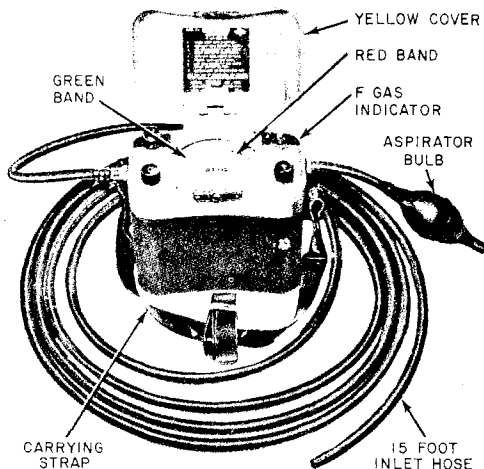

Fig. 1—F Gas Indicator
2.01 The F Gas Indicator, shown in Fig. 1, is a 2-filament, hot-wire gas indicator. It consists of a Wheatstone bridge type detecting element, an indicating meter with a light to facilitate reading at night, and a battery holder housed in a plastic case. An aspirator bulb, a 15-foot length of sampling hose, and carrying straps are provided with the indicator. The indicator weighs about 4 pounds.